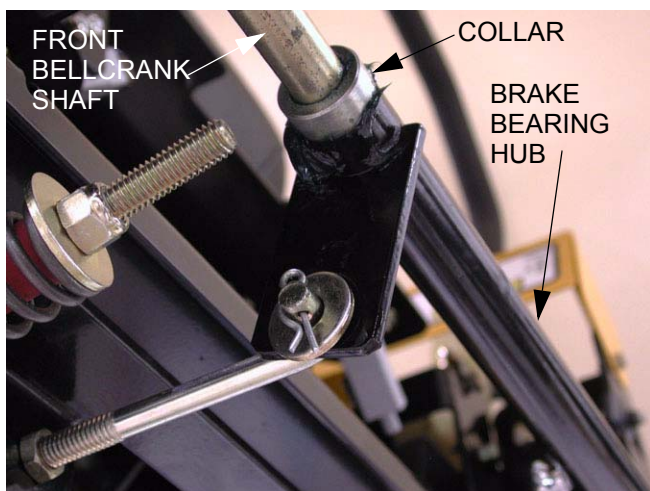

Figure 7.15
- 7.15. If adjustment is necklaces, loosen the two collars on the front bellcrank shaft using a 1/8" allen wrench. Re-position the bearing hub and collars as necklaces, and tighten the collars. See Figure 7.15.